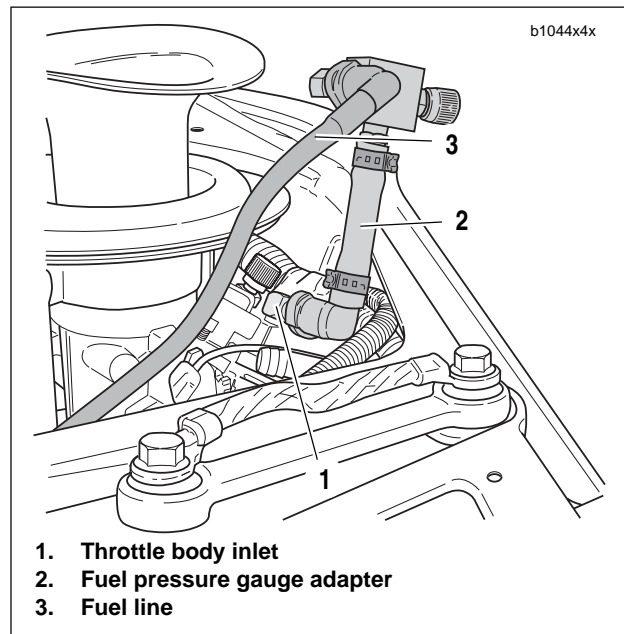

Figure 4-139. Fuel Pressure Gauge Adapter
4. See Figure 4-139. Attach FUEL PRESSURE GAUGE ADAPTER (Part No. B-45522) (2) to throttle body inlet (1).
5. Connect the fuel line (3) to fuel pressure gauge adapter.